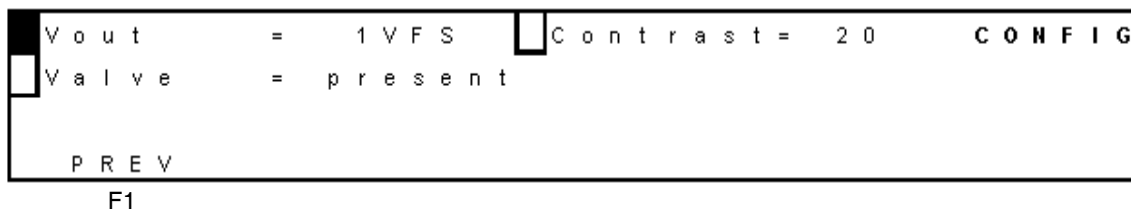

Figure 2-16 Config Screen
- a. From the 2465 Detector Main screen, select **F1 CONFIG**. The Config screen appears (Figure 2-16).